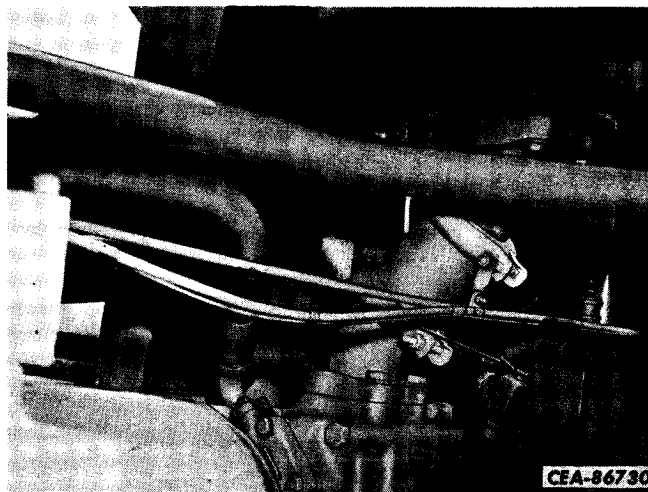

Figure 1-42
3. The operating temperature of the oil is registered as oil leaves the converter and is read on the temperature gauge on the vehicle dash. Converter "OUT" temperature check point is located on the converter housing (see Fig. 1-42).